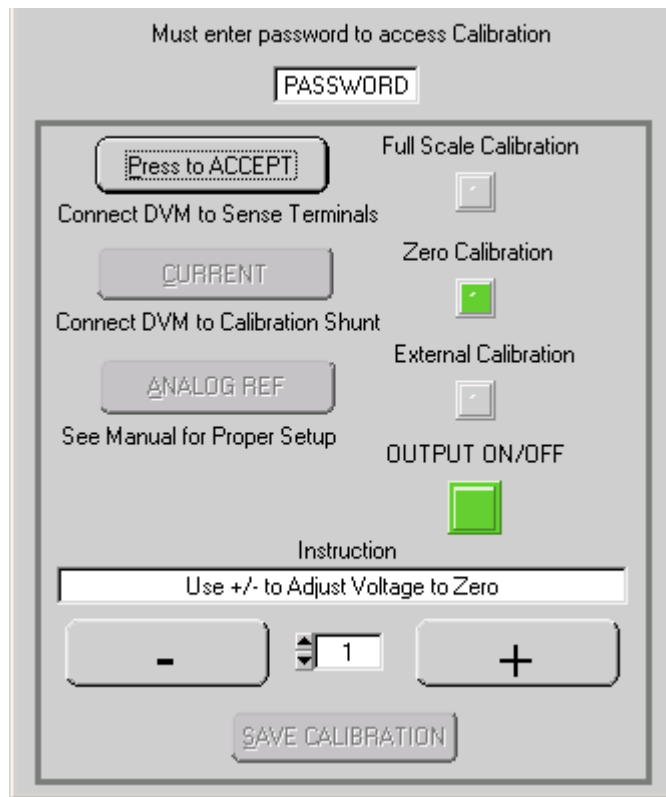

FIGURE 4-3. VOLTAGE CALIBRATION WINDOW
1. Click the **VOLTAGE** button on the Calibration window to start voltage calibration: the Voltage Calibration Window (Figure 4-3) appears. Minimum voltage is first; the status display on both the UUT and the VXI main panel) reads **V_0**. Monitor DVM and click the “+” button to increase and the “-” to decrease the output voltage until the DVM reads as close as possible to minimum rated POSITIVE voltage or zero.